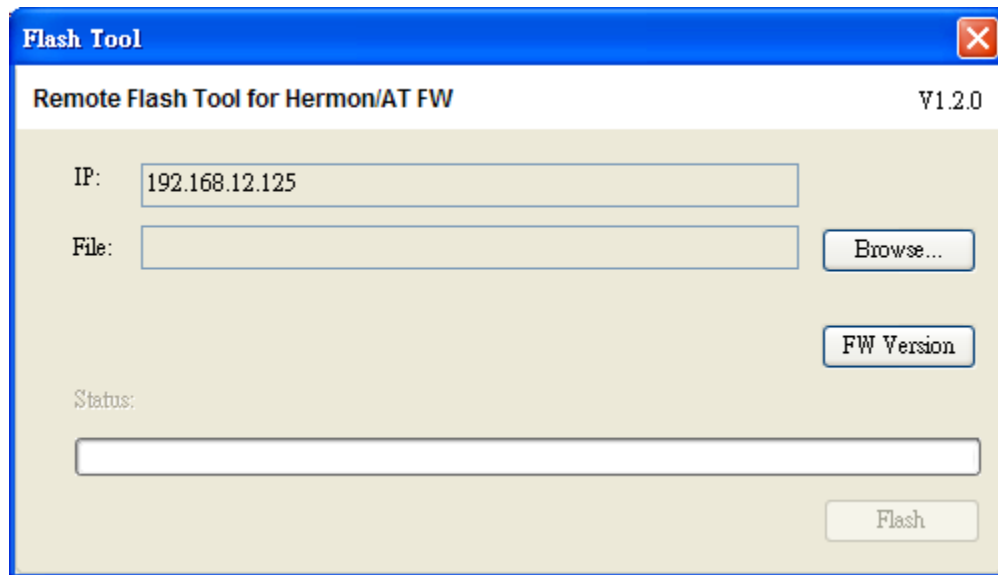

Figure E-2
2. Make sure that you've selected the correct firmware for update, and click <OK>. The Main Flash Screen will display as shown in Figure E-2.